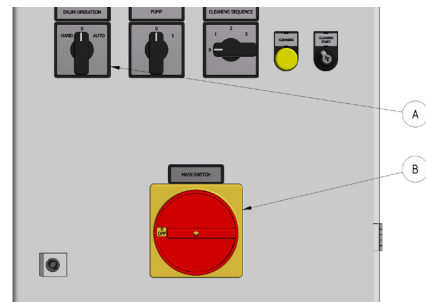

Figure 2.3
- ▶ The main power switch (see Figure 2.3) must be turned to OFF (0) and locked with a padlock before maintenance work is performed.
The filter is equipped with a main power switch (see Figure 2.3).